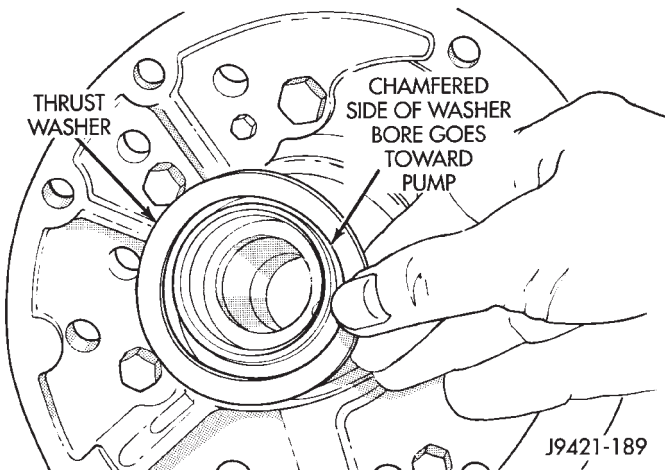

Fig. 110 Front Clutch Thrust Washer Installation
(40) Coat front clutch thrust washer with petroleum jelly to hold it in place. Then install washer over reaction shaft hub and seat it on pump (Fig. 110).